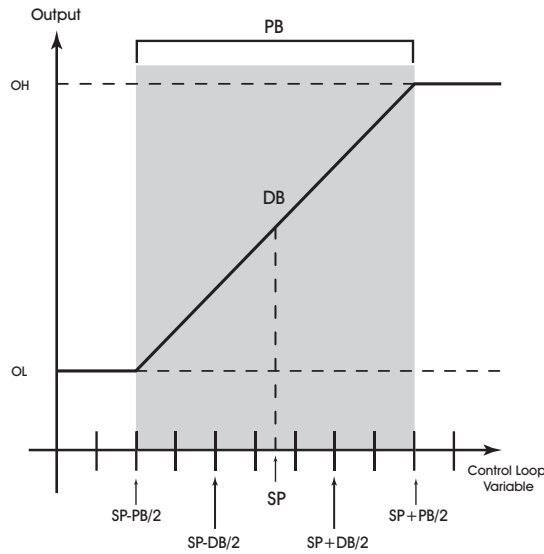
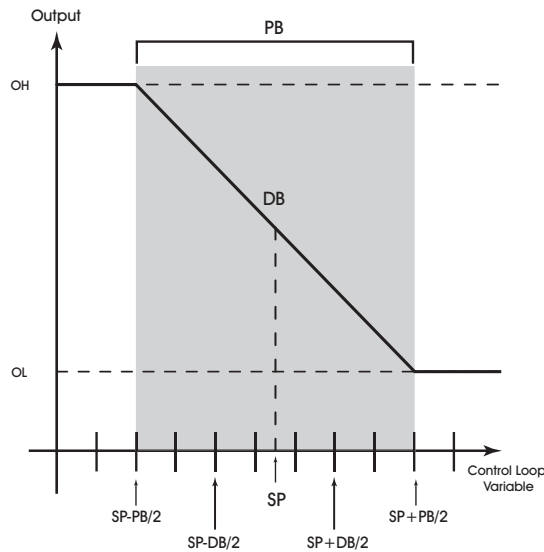

Figure 7-1: Proportional Band for Normal Acting Control ($SG = 0$)
Figure 7-2: Proportional Band for Reverse Acting Control ($SG = 1$)
To determine **PB**, first decide how closely the *NB*-GPC must control to the setpoint. For instance, if the setpoint is 72°F, then an acceptable control range might be within two degrees of the setpoint. This control range can be expressed as a band centered on the setpoint: from 70° to 74°, or 4 degrees *proportional band* (**PB**). Refer to Figure 7-1 and Figure 7-2.
For normal acting control loops (see Figure 7-1), the **(PO) Percent Output** property is set to maximum output when the input variable equals the setpoint plus half of the proportional band (**CS + PB/2**). The percent output is set to minimum output when the input variable equals the setpoint minus half of the proportional band (**CS - PB/2**). These associations are reversed for reverse acting control loops. **PO** will be midway between minimum and maximum output when the measured variable is equal to the control setpoint **CS**. The opposite would be true for reverse acting control loop as shown in Figure 7-2.
To determine **PB**, first decide how closely the *NB-GPC* must control to the setpoint. For instance, if the setpoint is 72°F, then an acceptable control range might be within two degrees of the setpoint. This control range can be expressed as a band centered on the setpoint: from 70° to 74°, or 4 degrees—the *proportional band (PB)*. Refer to Figure 7-1 and Figure 7-2.